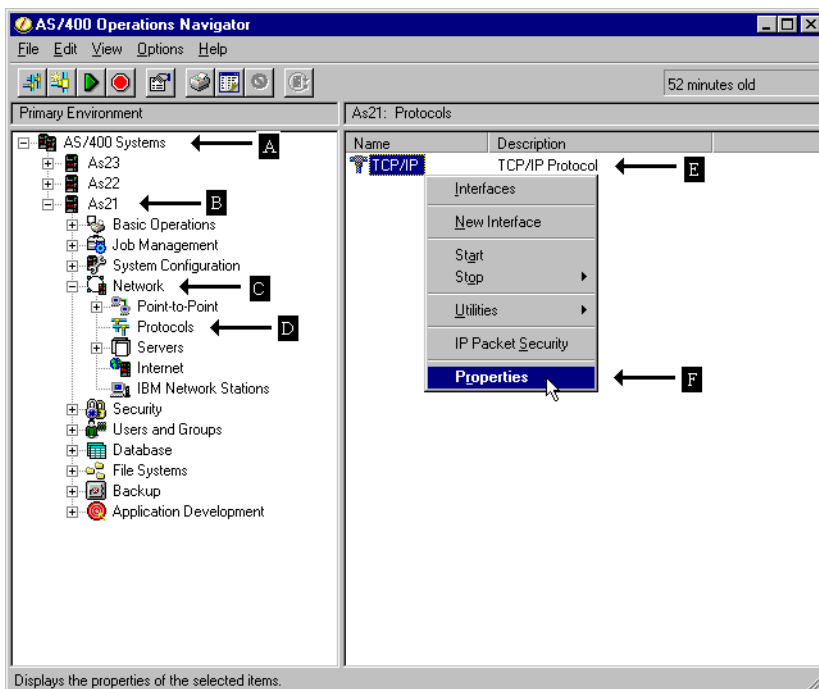

Figure 330. Context menu - Properties
- a. Start Operations Navigator by clicking **Start ->Programs->IBM Client Access->AS/400 Operations Navigator**. The AS/400 Operations Navigator window appears (Figure 330).
- b. Double-click the **AS/400 Systems** icon (A). A list of all the AS/400 systems should appear that can be configured.
- c. Double-click the AS/400 system you want to configure (B).
- d. Double-click **Networks** (C).
- e. Double-click **Protocols** (D).
- f. Right-click **TCP/IP** to open a context menu (E).
2. Select **Properties** from the context menu (F). Figure 330 shows the context menu - Properties option.